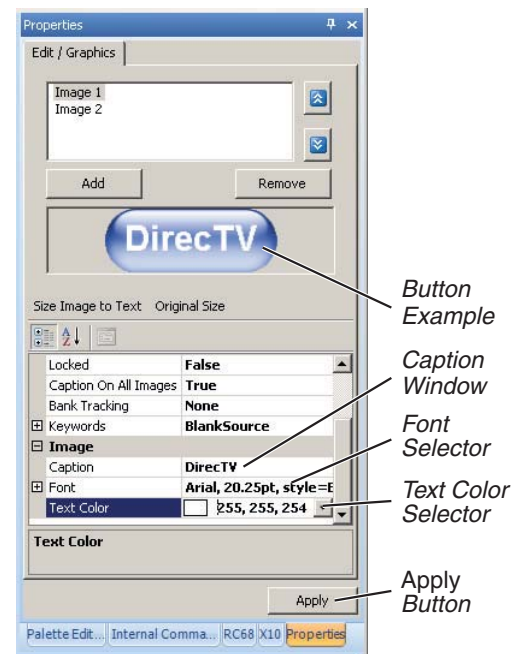

Figure 18: Edit/Graphics window text tools
2. Click the cursor in the Caption Window and type the text you want to appear on the selected button. After typing the text, click the cursor outside of the Caption Window and the text will appear in the Button Example (see Figure 18).
3. Use the Font Selector and Text Color Selector to change the font style and size and text color of the button text in the Button Example (see Figure 18).
BANK TRACKING: Each Source button can be assigned a unique Bank number for bank tracking during RC68 operation (see Figure 18).